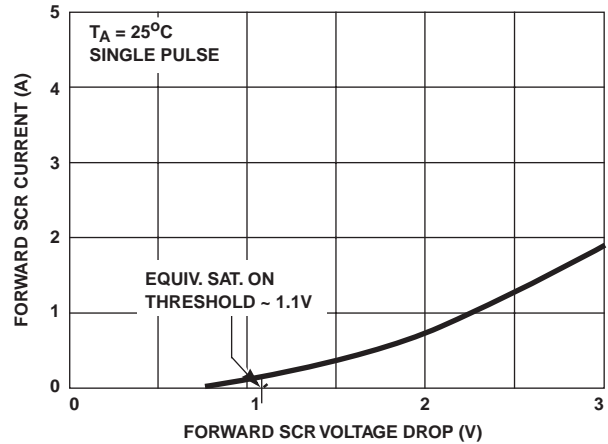

FIGURE 3. HIGH CURRENT SCR FORWARD VOLTAGE DROP CURVE
- Refer to the Figure 3 graph for definitions of equivalent "SCR ON Threshold" and "SCR ON Resistance". These characteristics are given here for information to determine peak current and dissipation under EOS conditions.